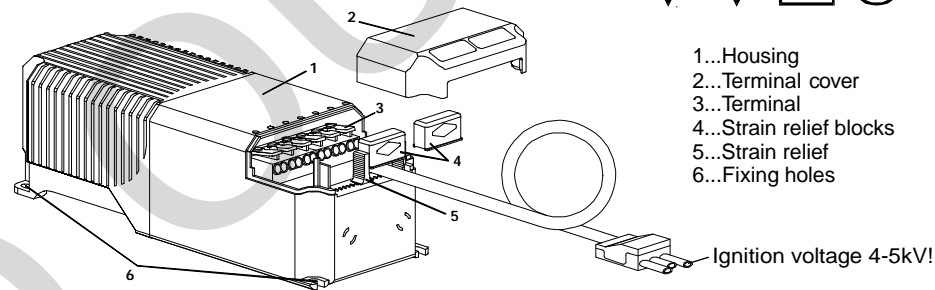
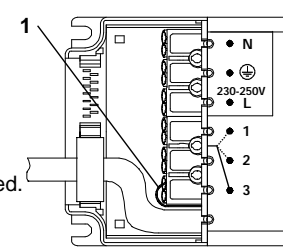

Figure: 1
Figure: 2
The gear box is prewired for 250V/50Hz voltage. A change to an other voltage (shown on the gear box) can be made internally (Figure 2).
Choice of voltage. Fix cable (1) to the right voltage, refer Figure 2. After connecting the cables at the terminals (3) the strain relief blocks (4) have to be fitted to the strain relief (5) and completely pushed down. Now you have to mount the cover (2) until it is engaged, refer Figure 1.